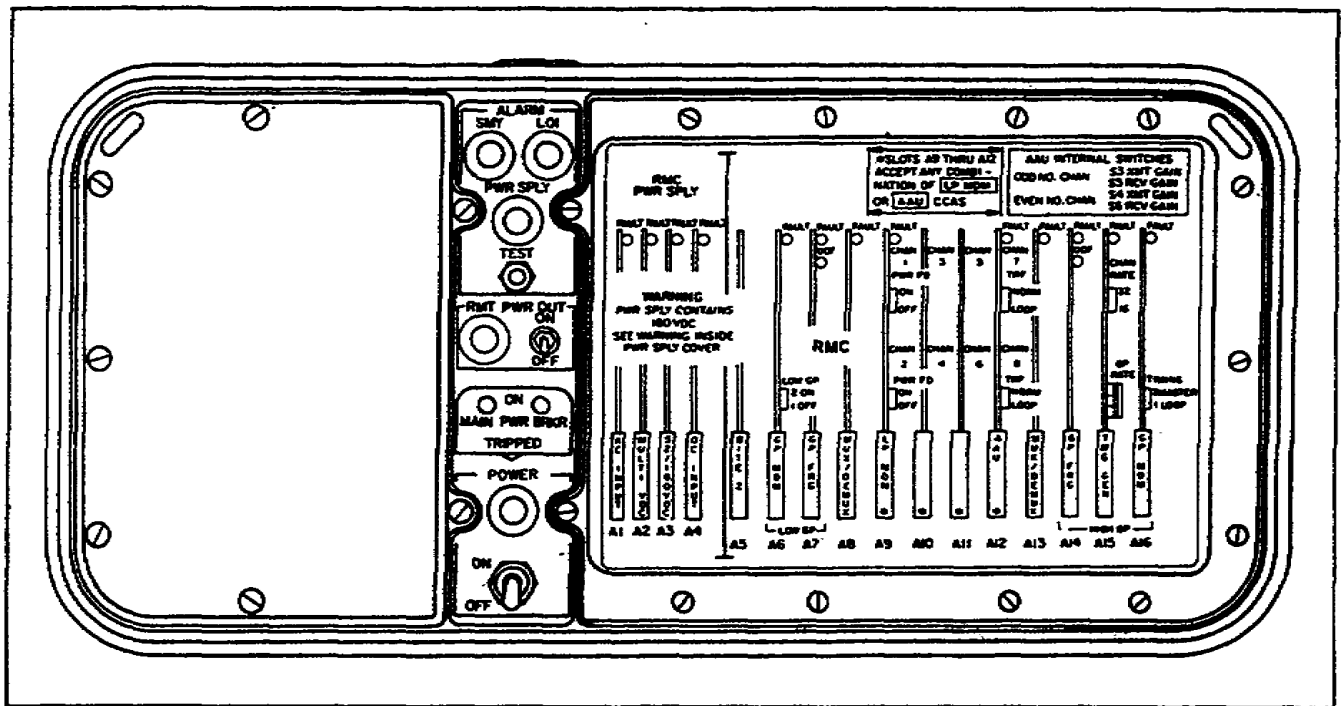

Figure 1-30. Circuit card location.
(3) Static discharge from the installer can damage the components located inside the equipment on the circuit card assemblies (CCAs). Then the equipment will not work. If there is no spare equipment, the mission cannot be accomplished.
50. There are up to 16 circuit cards inside that do all the work. They provide power, remote power, and process the telephone signals. In positions A9 through A12, you can interchange the cards. If you are installing digital telephones such as TA-954/TT or KY-68, you need a loop modem (LP MDM) card. If you are installing a TA-341/TT or a TA-838()/TT, you need an analog applique unit (AAU) circuit card. You can mix or match the cards depending on the telephone. (See Figure 1-30 for circuit card locations. Note that positions A9 through A12 can handle two telephones that are the same.)